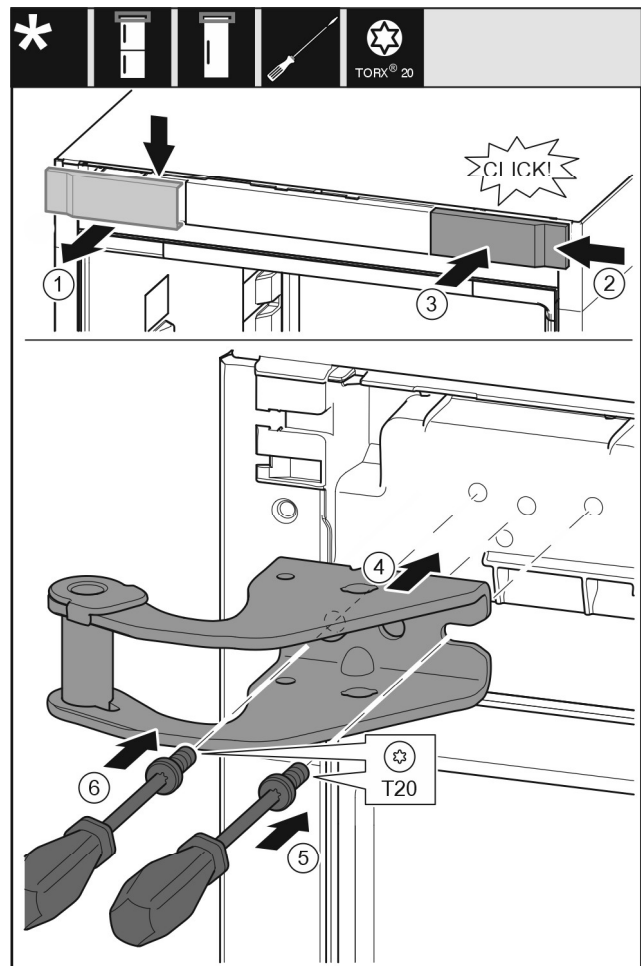

Fig. 31
- ▶ Remove the cover *Fig. 31 (1)* from the top towards the front.
- ▶ Hang the cover *Fig. 31 (2)* from the right turned by 180° to the other side.
- ▶ Snap in the cover *Fig. 31 (3)*.
- ▶ Attach the top swap bearing block *Fig. 31 (4)*.
- ▶ Attach and tighten the screw *Fig. 31 (5)* with a screwdriver.
- ▶ Attach and tighten the screw *Fig. 31 (6)* with a screwdriver.